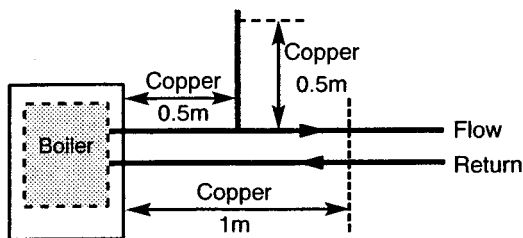

Fig. 8a
4. In systems using non-metallic pipework it is necessary to use copper pipe for the boiler Flow and Return. The copper must extend at least 1 metre from the boiler and include any branches (Fig. 8a).